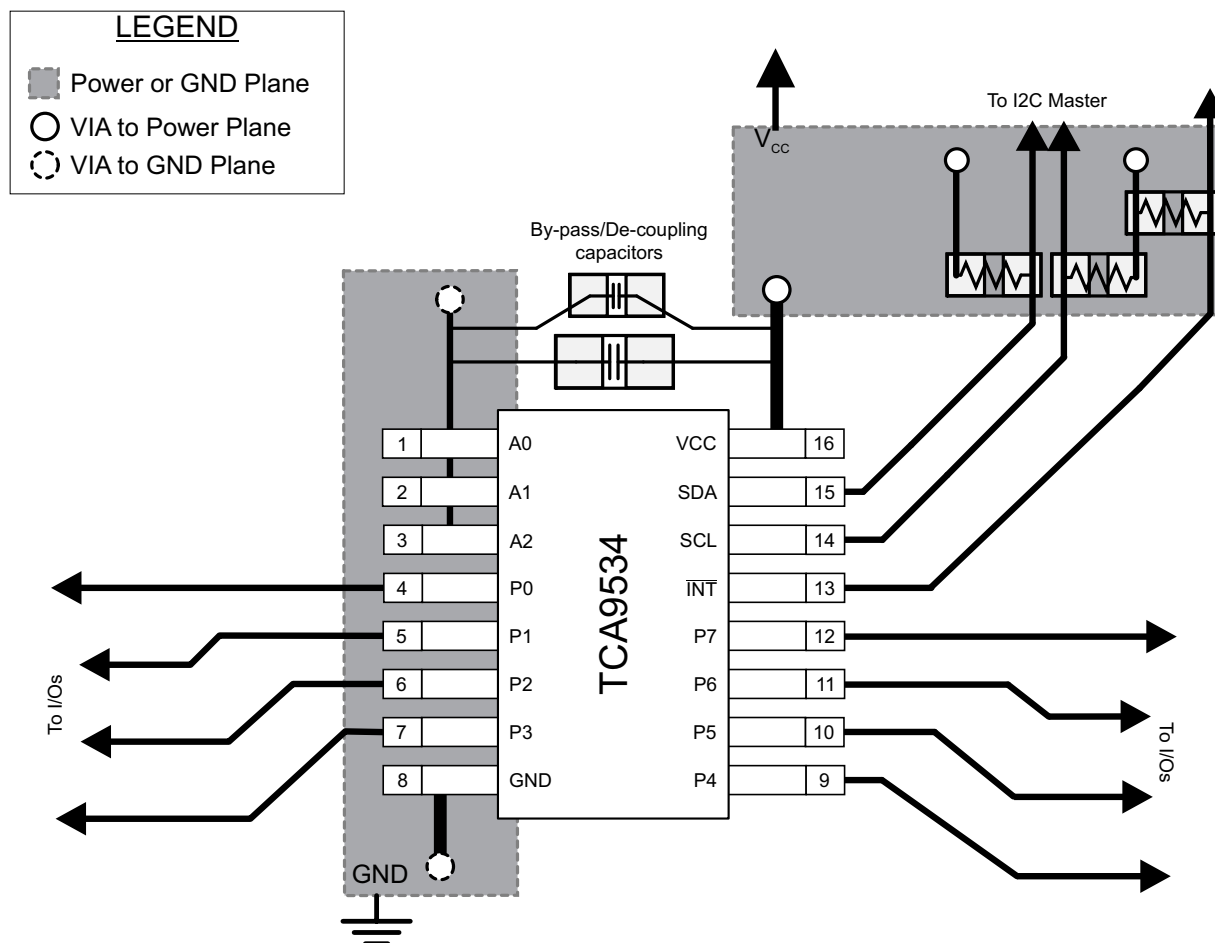

Figure 41. TCA9534 Layout
In all PCB layouts, it is a best practice to avoid right angles in signal traces, to fan out signal traces away from each other upon leaving the vicinity of an integrated circuit (IC), and to use thicker trace widths to carry higher amounts of current that commonly pass through power and ground traces. By-pass and de-coupling capacitors are commonly used to control the voltage on the VCC pin, using a larger capacitor to provide additional power in the event of a short power supply glitch and a smaller capacitor to filter out high-frequency ripple. These capacitors must be placed as close to the TCA9534 as possible. These best practices are shown in Figure 41.
For the layout example provided in Figure 41, it must be possible to fabricate a PCB with only 2 layers by using the top layer for signal routing and the bottom layer as a split plane for power (V_{CC}) and ground (GND). However, a 4 layer board is preferable for boards with higher density signal routing. On a 4 layer PCB, it is common to route signals on the top and bottom layer, dedicate one internal layer to a ground plane, and dedicate the other internal layer to a power plane. In a board layout using planes or split planes for power and ground, vias are placed directly next to the surface mount component pad which needs to attach to V_{CC} or GND and the via is connected electrically to the internal layer or the other side of the board. Vias are also used when a signal trace needs to be routed to the opposite side of the board, but this technique is not demonstrated in Figure 41.